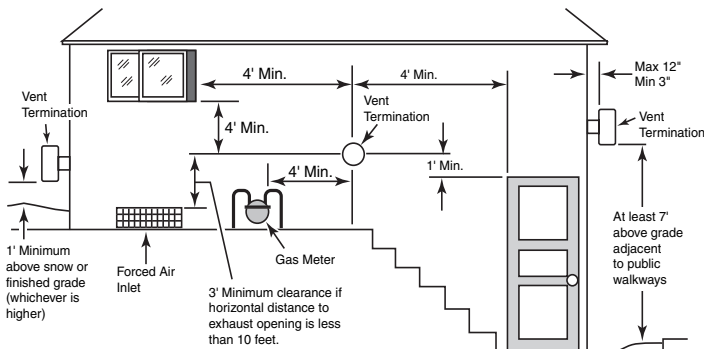

FIGURE 13: U.S. minimum Exhaust Vent clearances. Local codes may differ - consult local code officials
HORIZONTAL OR VERTICAL VENTING - POSITIVE PRESSURE (See Figure 13)
- Vent Termination – Horizontal (See Table 7). Use a listed wall thimble and vent terminal from Table 7. The terminal must be located (U.S.-See Figure 13):